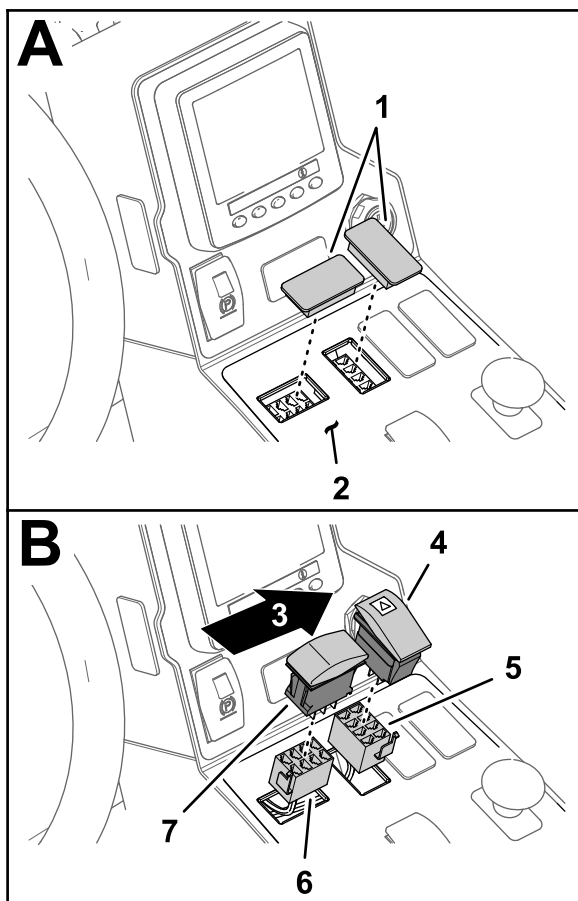

Figure 12
2. From inside the console arm, remove the dash plugs for the hazard switch and the turn-signal switch from the console arm as shown in Figure 12.
3. Plug the rocker switch (2-position—hazard switch with a hazard-warning symbol) into the 8-socket connector of the platform harness labeled HAZARD SWITCH (Figure 12).
4. Align the hazard symbol forward, and insert the switch into the opening in the dash panel until the switch snaps securely into the panel (Figure 12).
5. Plug the rocker switch (3 position—turn-signal switch) into the 8-socket connector of the platform harness labeled TURN SIGNAL SWITCH (Figure 12).
the opening in the dash panel until the switch snaps securely into the panel (Figure 12).